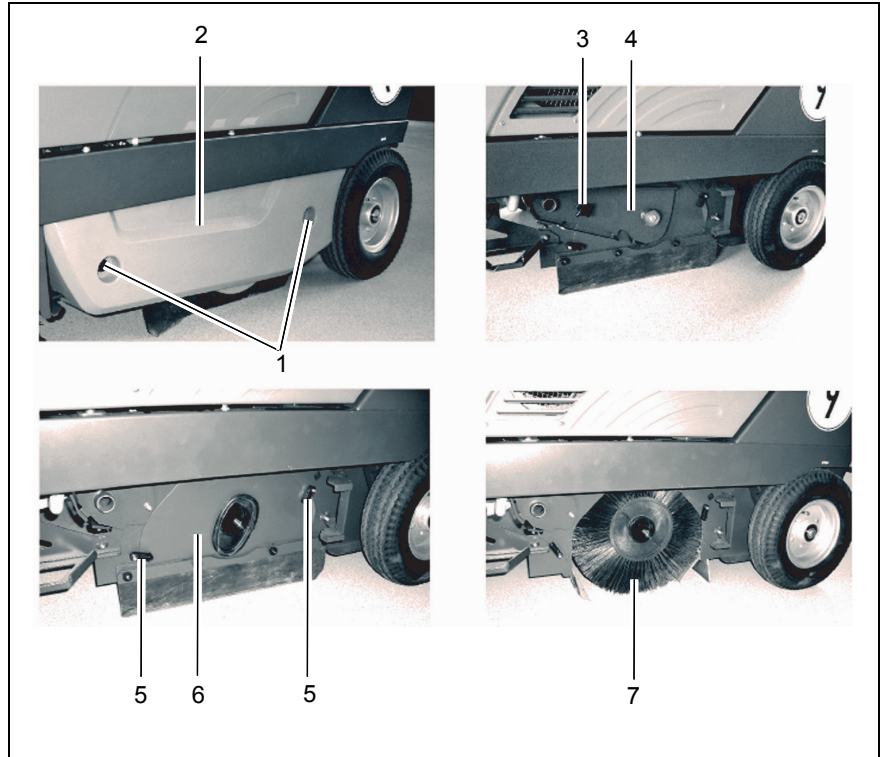

Fig.12
3. Open locks (Fig. 12/1) by enclosed square spanner (turn counter-clockwise).
4. Remove cover (Fig. 12/2).
5. Loosen star-shaped knob (Fig. 12/3) and remove.
6. Remove sweeper roller seating (Fig. 12/4).
7. Turn handle (Fig. 12/5) upwards and unlock.
8. Remove plate with sealing strip (Fig. 12/6).
9. Remove sweeper roller (Fig. 12/7) by pulling.